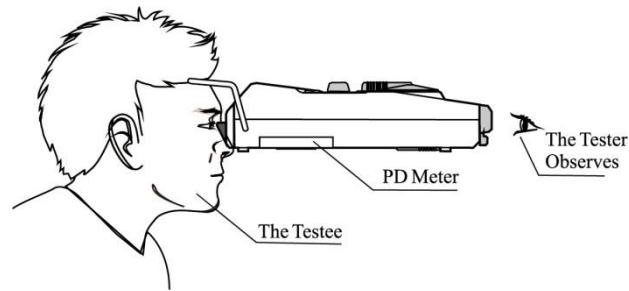

Fig.6
- b. Put the forehead bearer lightly on the testees's forehead, and nose bearer lightly on testee's nose bridge, then keep the device in a horizontal state(as shown in Fig.6).